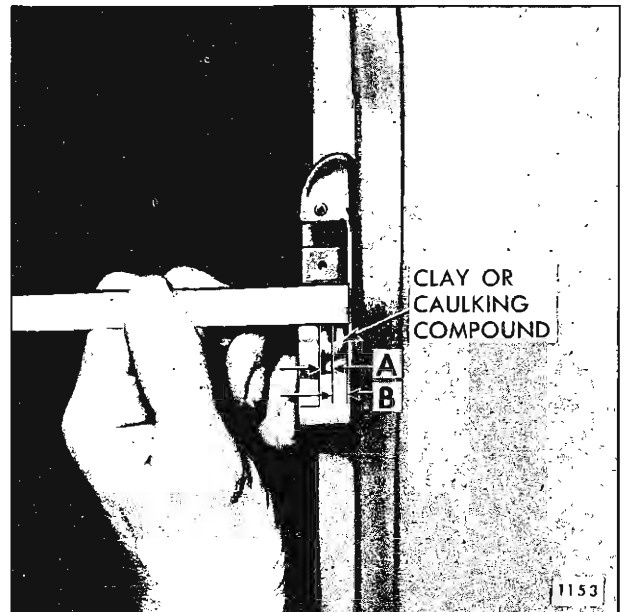

Fig. 9-49—Tail Gate Lock Striker Caulking Check
- b. To determine if tail gate lock striker service spacers are required, apply modeling clay or body caulking compound in the lock striker notch where the lock extension engages and close tail gate to form a measurable impression in the clay or caulking compound, as shown in Figure 9-49.